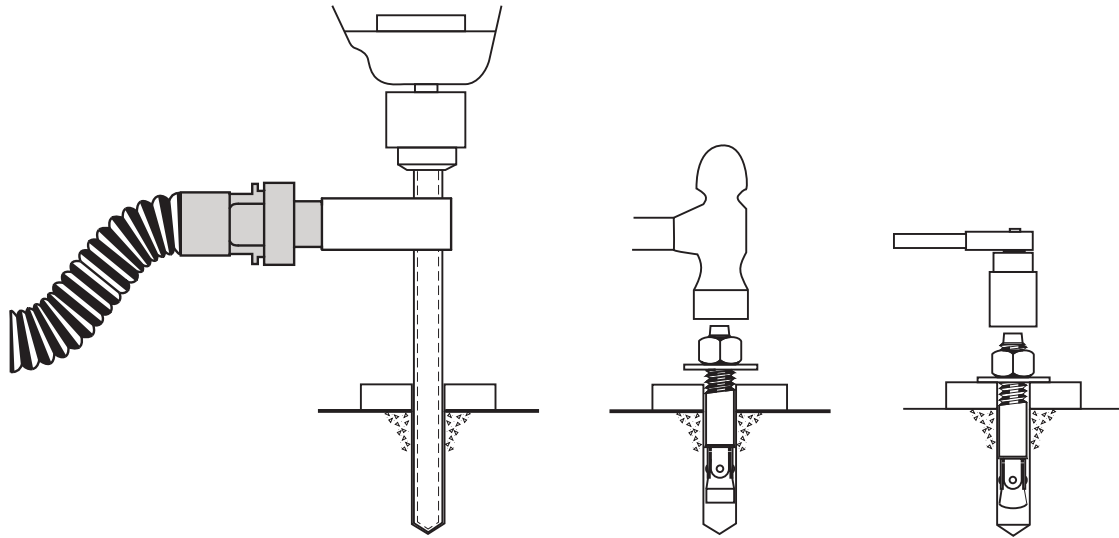

Fig. 5a
If you are installing a seismic lift, consult with a structural engineer and manufacturer's representative for concrete and anchoring requirements (varies by location). Fig. 5a and the below table apply to non-seismic lifts only.
Drill (10) 3/4" dia. holes in concrete floor using holes in column base plate as a guide. See Fig. 5a for hole depth, hole spacing, and edge distance requirements.